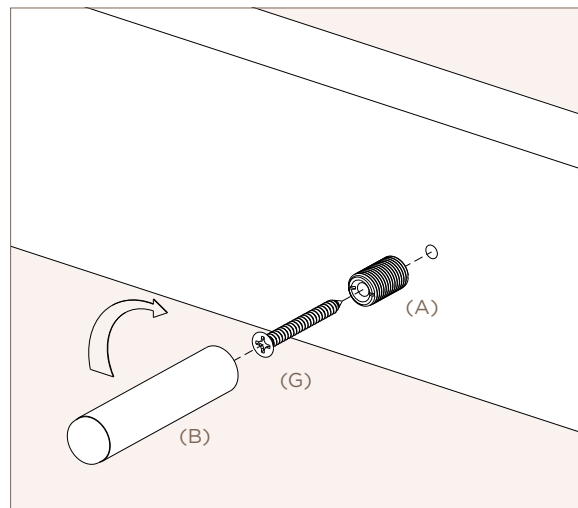

Figure 3
- 2.4 Secure the ferrule (A) with screw L45mm (G) then screw the door stop (B) on. Figure 3.